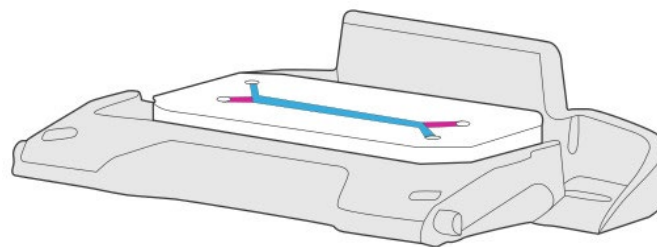

Figure 4. View of chip with no excess ER-1 solution on surface
- Gently aspirate excess ER-1 solution from the surface of the chip. Remove ER-1 solution from the chip surface only—do not aspirate ER-1 from the channels (See Figure 4).